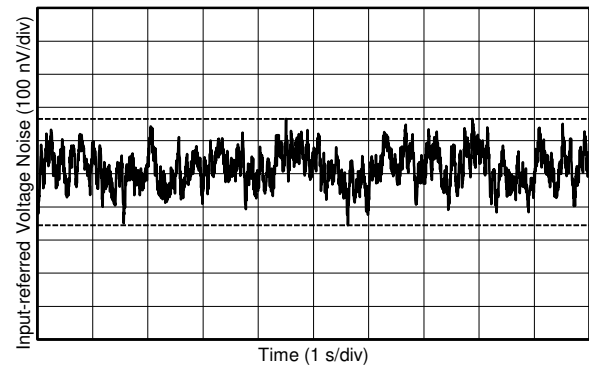

Figure 16. 0.1-Hz to 10-Hz Voltage Noise
0.1-Hz to 10-Hz Voltage Noise	Figure 16